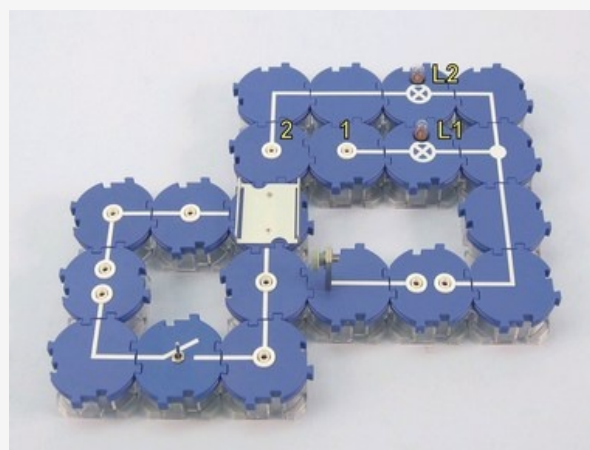
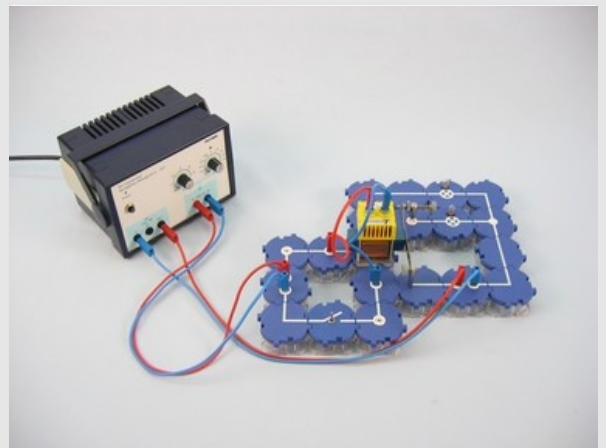

Fig. 1
Fig. 2
- Set up the experiment according to Fig. 1 and Fig. 2.